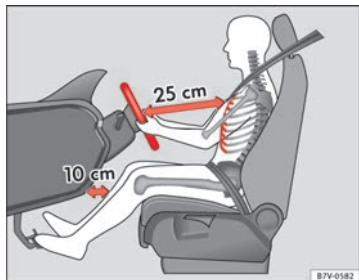
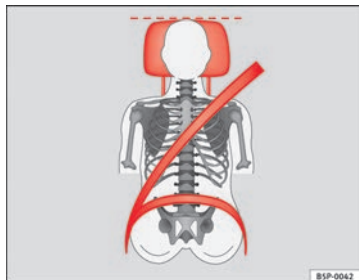

Fig. 1 The correct distance between the driver and the steering wheel must be at least 25 cm (10 inches).
Fig. 2 Correct belt web and head restraint positions
- Adjust the head restraint so that its upper edge is at the same level as the top of your head, or as close as possible to the same level as the top of your head and under no circumstances below eye level. Keep the back of your neck as close as possible to the head restraint ⇒ Fig. 1 and ⇒ Fig. 2.
- Adjust the steering wheel so that there is a distance of at least 25 cm (10 inches) between it and your chest ⇒ Fig. 1 and so that you can hold the steering wheel with both hands on the outside of the ring at the 9 o'clock and 3 o'clock positions with your arms slightly bent.
- Adjust the driver seat forwards or backwards so that you are able to press the accelerator, brake and clutch pedals to the floor with your knees slightly angled and the distance between your knees and the dash panel is at least 10 cm (4 inches) ⇒ Fig. 1.